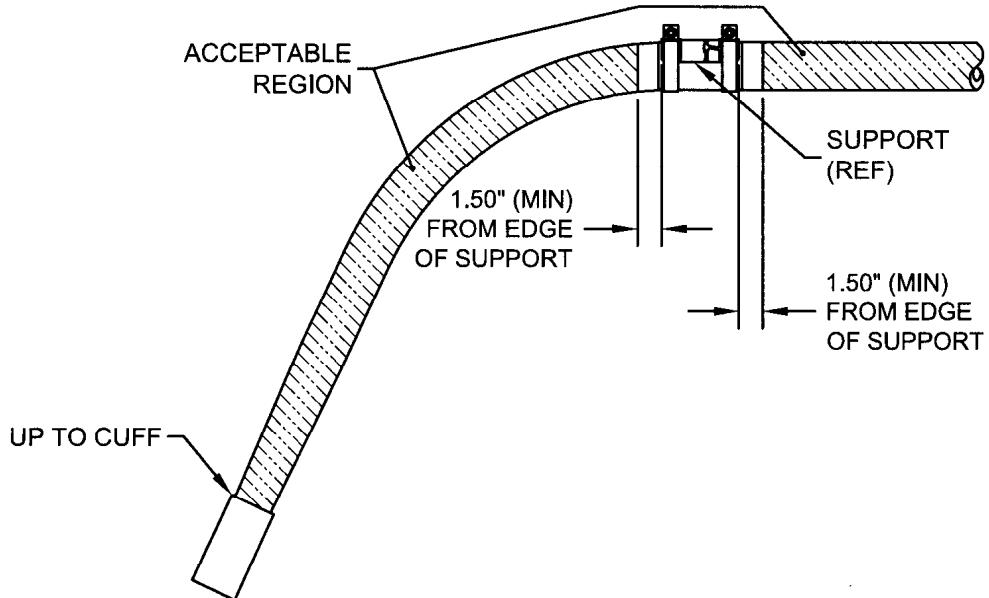
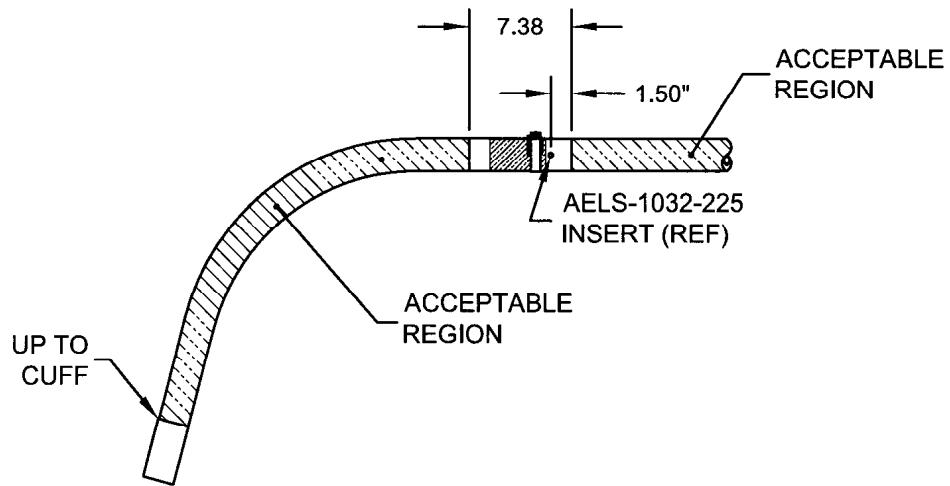

FIGURE 1 - ACCEPTABLE REGIONS TO BE COATED WITH ARMOR SHIELD
FIGURE 2 - ACCEPTABLE REGIONS TO BE COATED WITH ARMOR SHIELD
To further protect Dart crosstubes from mechanical damage in service, they may be treated with "Armor Shield" surface treatment. To designate crosstubes with 'Armor Shield' add 'A' to the Part Number. For example, D206-667-101A is a D206-667-101 crosstube coated with Armor Shield. It is acceptable to apply the Armor Shield in regions shown in Figure 1 or Figure 2 only. It is NOT acceptable to apply Armor Shield in the cuff and support/clamp regions. The following installations are applicable:
- 1.3 Mask areas around supports and cuffs per Figure 1 or Figure 2 (D350-748-101/-201 only). Abrade paint finish in areas requiring protection using 800 grit sandpaper. Ensure the surface is de-glossed.
(SEE FIGURE 2 FOR D350-748-101/-201 CROSSTUBES)